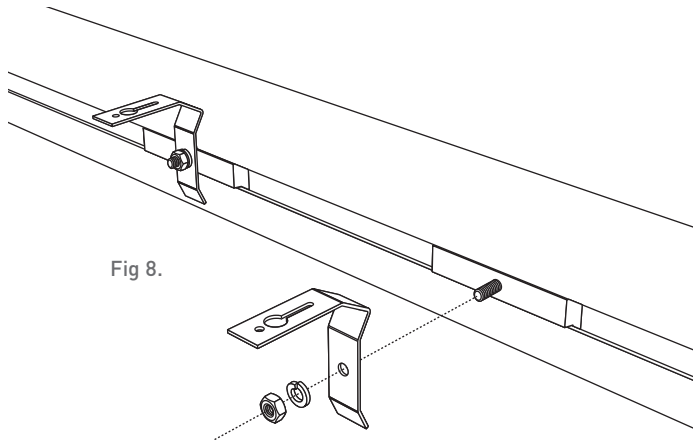

Fig 8.
6. Attach the Channel Insert Brackets onto the channel insert bolt on the TV55. See Fig 8. Tighten with split washers and hex nuts.